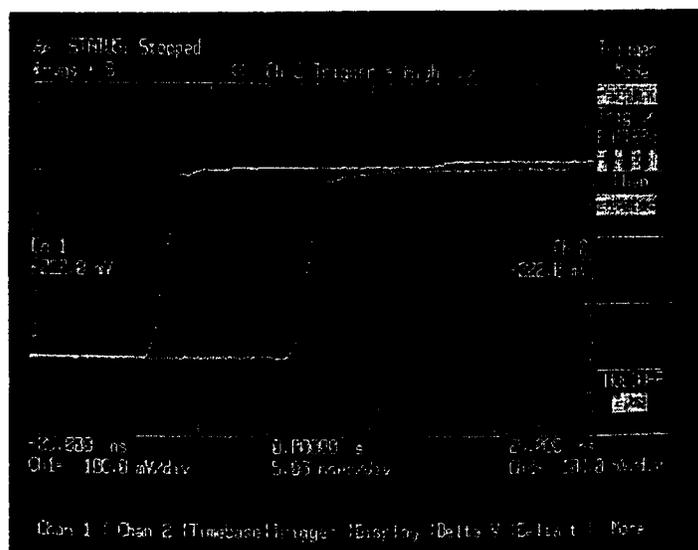

Figure 7-16. Pattern When Entered "HHXX"/"HHX"
*In figures 7-16 and 7-17, the signal path for chan 2 is approximately 2 meters longer than that of the signal path for chan 1. This provides the time differential between the two signals.*